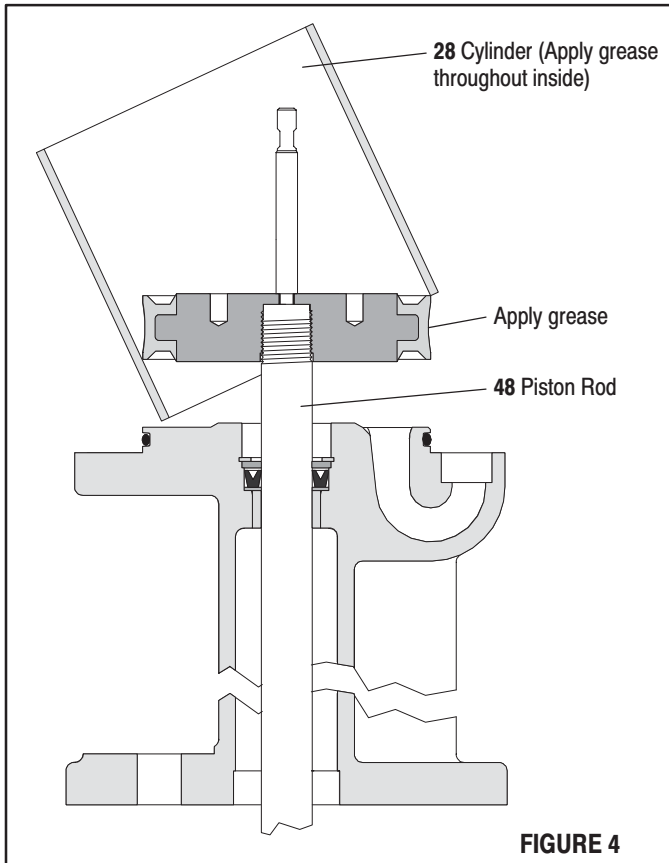

FIGURE 4
2. Clean the threads on (27) rod assembly and put the threaded end thru (24) piston assembly.
3. Hold (27) rod assembly below threads with locking type pliers. After applying Loctite 271 to the threads, attach (36) extension rod and draw up tight, using the wrench flats provided on (36) extension rod. **NOTE: Do not mar or damage the surface of (36) extension rod.**
4. Place the "machined shoulder" end of (27) rod assembly into the hole in the end of (48) piston rod. After applying Loctite 271 to threads, secure (48) piston rod into (24) piston assembly and tighten to 50 - 60 ft lbs (67.8 - 81.3 Nm), using provided wrench flats on (48) piston rod. **NOTE: Do not mar or damage the surface of (48) piston rod.**
5. Install (21) "O" ring on (30) base assembly.
6. Install (46) washer, (45) "U" cup (lips up), (44) washer and (43) snap ring.
7. Push (48) piston rod thru (30) base assembly, being careful not to damage the lips of (45) "U" cup.
8. Grease the inside of (28) cylinder and fill the area between the lips of (24) piston assembly with grease, then place (28) cylinder over (24) piston and rod assembly (see figure 4, page 4).